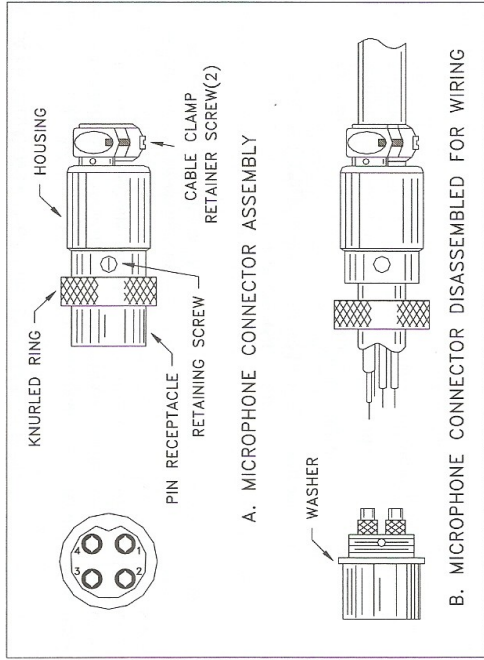

Fig. 2 Microphone plug wiring
4. Feed the microphone cable through the housing, knurled ring and washer as shown Figure 2.
Be sure that the housing and the knurled ring of Fig. 2 are pushed back onto the pin receptacle body before starting to solder. If the washer is not captive to the pin receptacle body, make sure that it is placed on the threaded portion of the pin receptacle body before soldering.